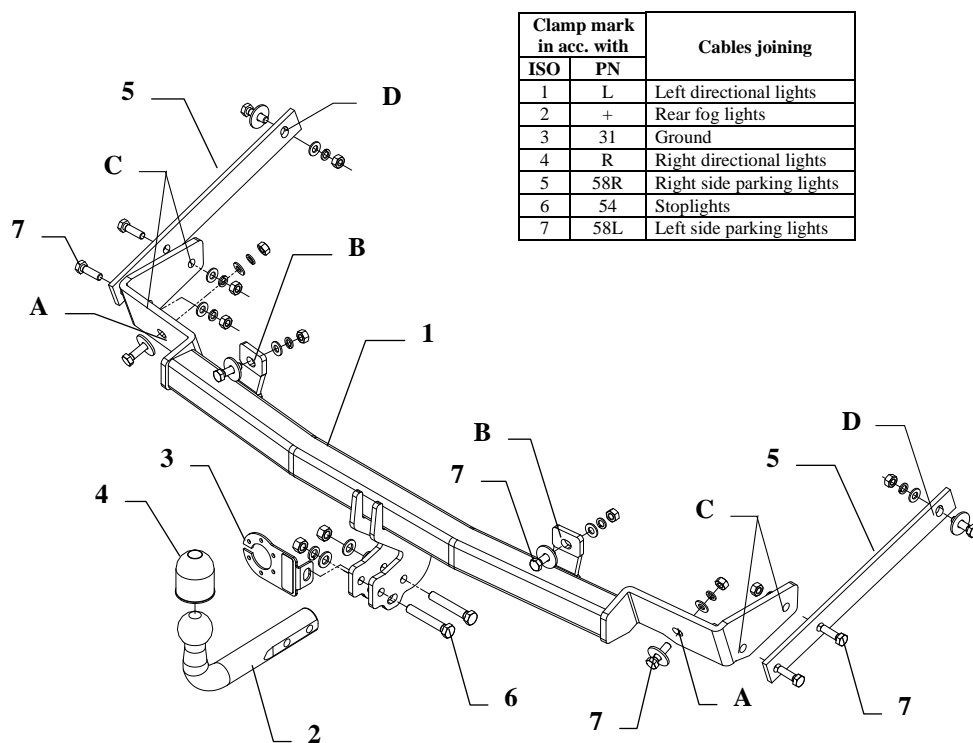

Fig.1
2. Put main bar of the towbar (pos. 1) to rear part of the car and through existing holes and holes in the towbar (pos. A and B) fix it using bolts M10x35mm (pos. 7), use washers (pos. 10) as showed in the fig.1. Fix loosely.
3. Fix elements (pos. 5) through holes (pos. C) using bolts M10x35mm, next through holes (pos. D) in element (pos. 5) fix to original holes in the car using bolts M10x35mm and washers (pos. 10) (as showed in the drawing).